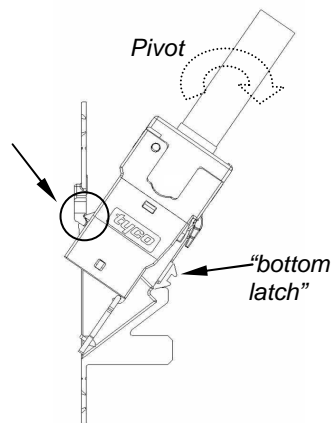

Fig. 3
4.2 Place the connector top latch into the top rib of the mounting frame (according to fig. 3).